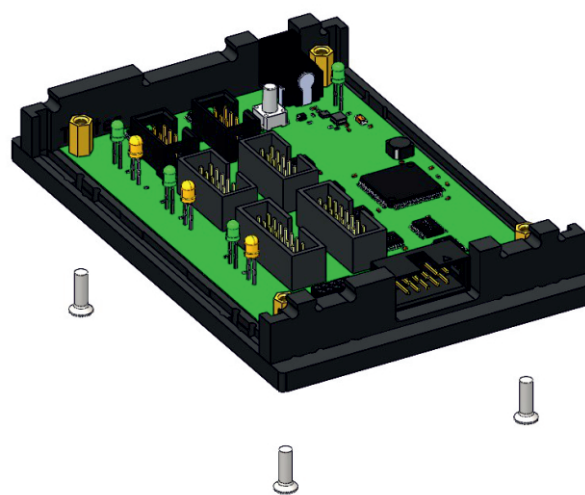

Fig. 84: Securing the bottom base plate
3) Attach the circuit board to the bottom base plate using four PCHSS M3x10 brass studs and four M3x10 sunk screws (Fig. 84):